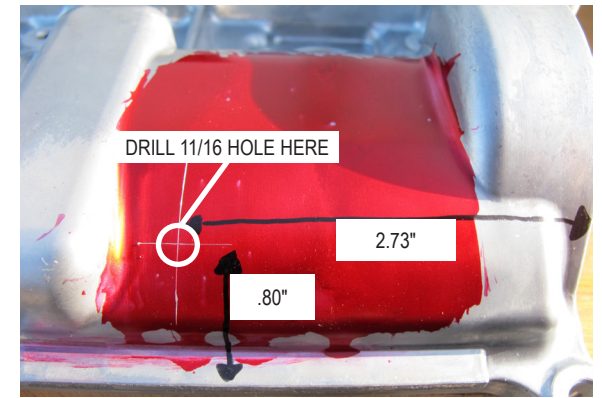

Fig. 11I
- J. With the valve cover removed from the vehicle, make the following marks on the bottom of the valve cover. See Fig. 11I
- K. Using a scribe tool, mark the lines as pictured in Fig. 11I. (The red dye is only used for reference). The center of the cross will be where you need to drill the valve cover. Use a punch to mark the center.